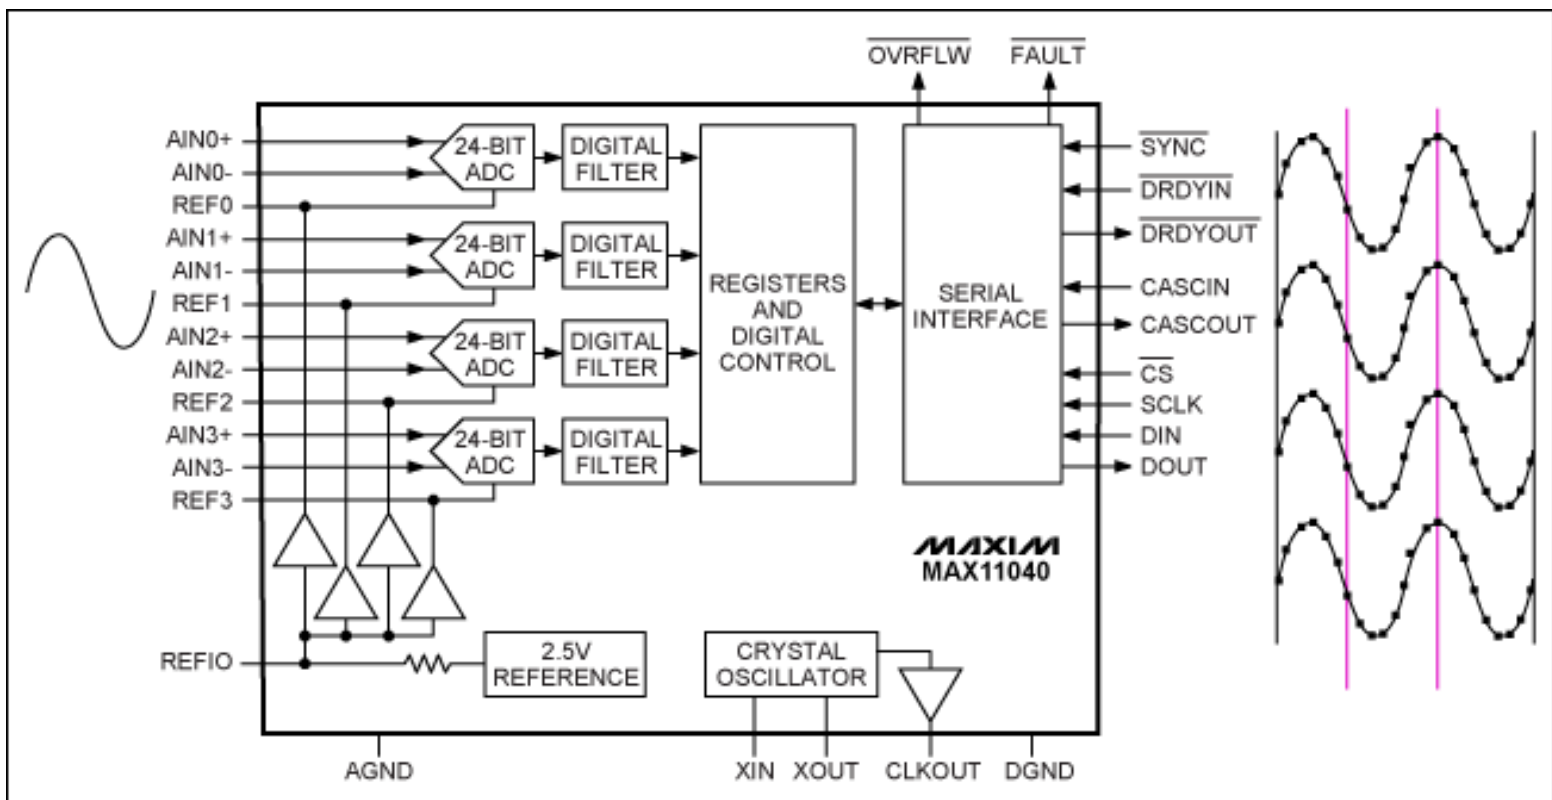

Figure 1. The same sine-wave signal was applied to the four inputs of the MAX11040. Simultaneous outputs are shown at right.
**Figure 1** shows same analog signal applied (zero phase delay) to all four ADC inputs, and the resulting sampled data.